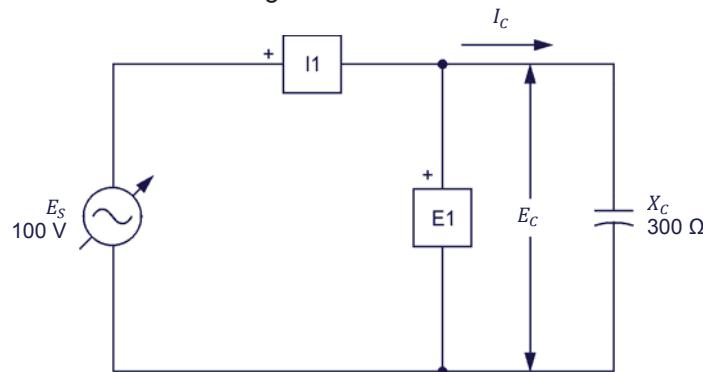

Figure 3-7. AC circuit containing a capacitor and set up for power measurements.
- 34.** Set up the circuit shown in Figure 3-7.